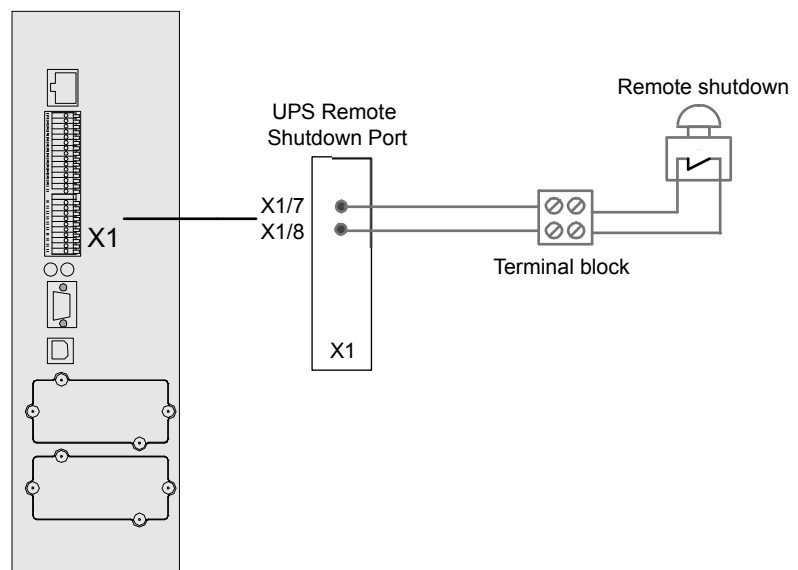

Figure 7.1 Remote emergency stop cabling
2. Connect the cable as shown in Figure 7.1.